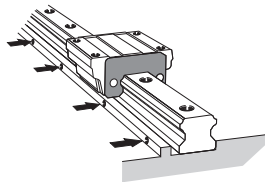

Fig. 9: Tightening the Set Screws
- (3) Secure the LM rail set screws in order with a tightening force just enough to have the rail closely contact the side mounting surface. (Fig. 9)